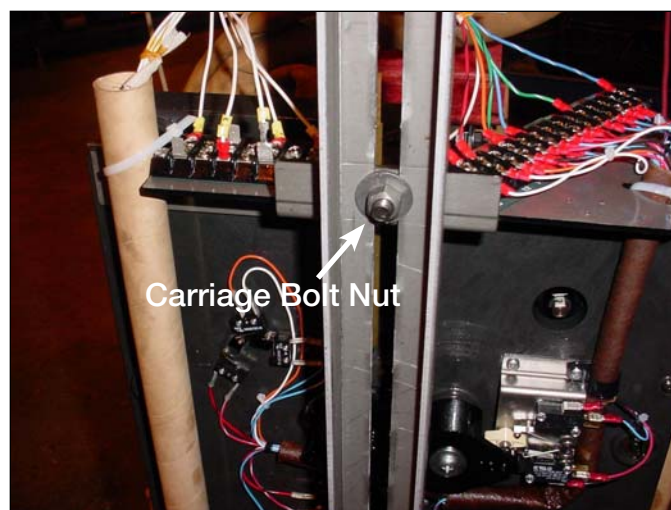

Figure 4.
3. Use a 9/16 inch socket and ratchet to loosen and remove the nut and carriage bolt fastening the tap changer bracket to the regulator side channel. See Figure 4.